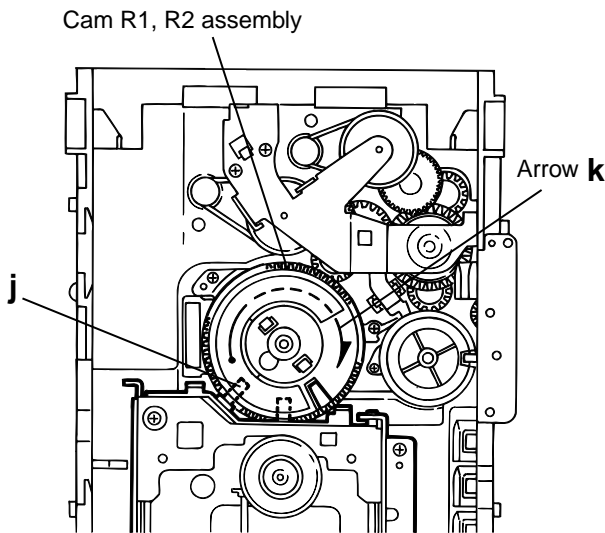

Fig.11
**Removing the CD traverse mechanism (See Fig.11 and 12)**
1. For dismantling only the CD traverse mechanism without removing the CD loading mechanism assembly, align the shaft "j" of the CD loading mechanism assembly to the position shown Fig.11 while turning the cam R1 and R2 assembly in the arrow direction "k".